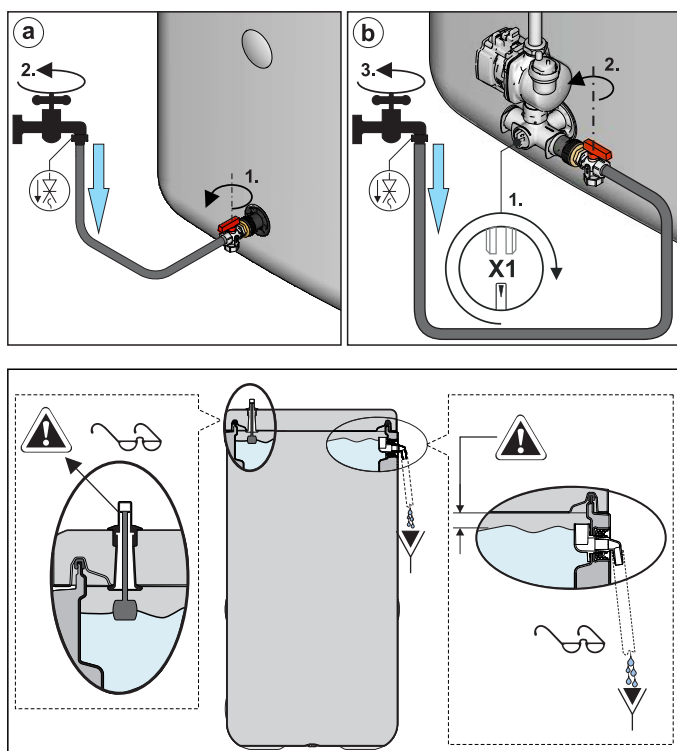

Fig. 4-5 Filling the buffer storage tank - with KFE filling connection
Adjust the valve insert on the connecting angle so that the path to the filling hose is opened (fig. 4-5).
- Open the KFE cock on the **KFE filling connection** and the cold water inlet and fill the storage tank for the Daikin EKHWP/EKHWC **until water comes out of the safety overflow** (fig. 4-5, item 5).